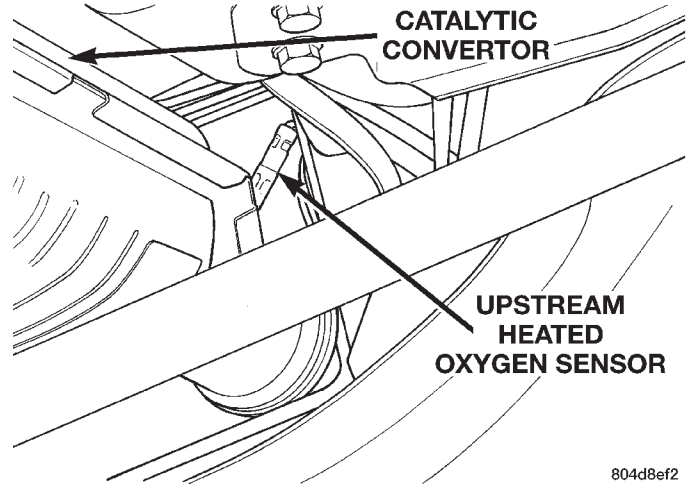
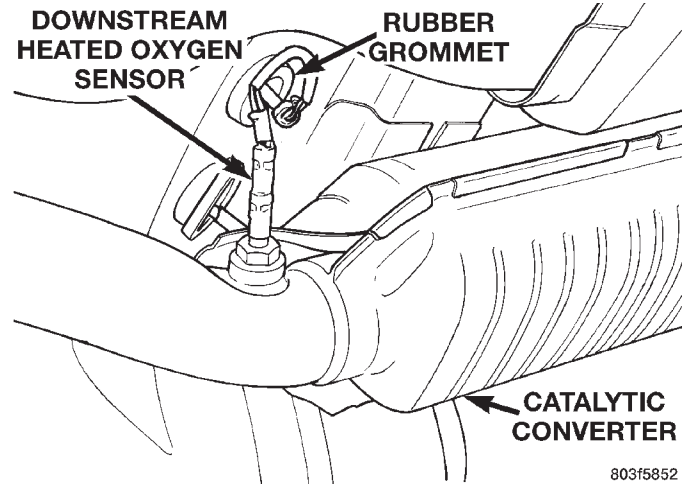
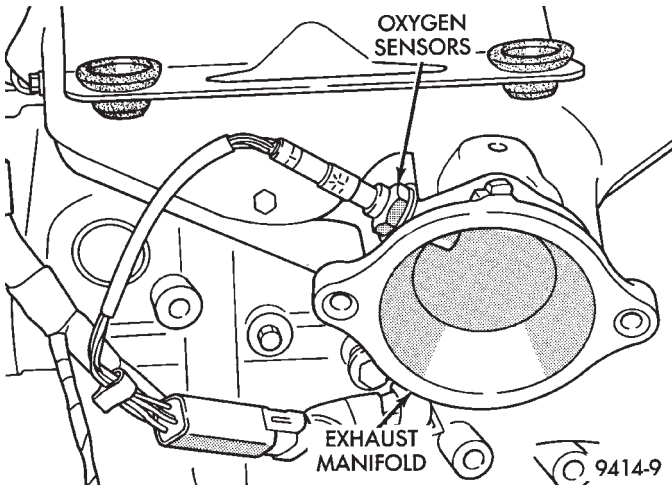

Fig. 62 Upstream Heated Oxygen Sensor—2.5L Engine
Fig. 63 Rear Heated Oxygen Sensor
Fig. 61 Upstream Heated Oxygen Sensor—2.0/2.4L Engines
(24) Inspect the electrical connections at the upstream and downstream heated oxygen sensors (Fig. 61), or (Fig. 62), and (Fig. 63).